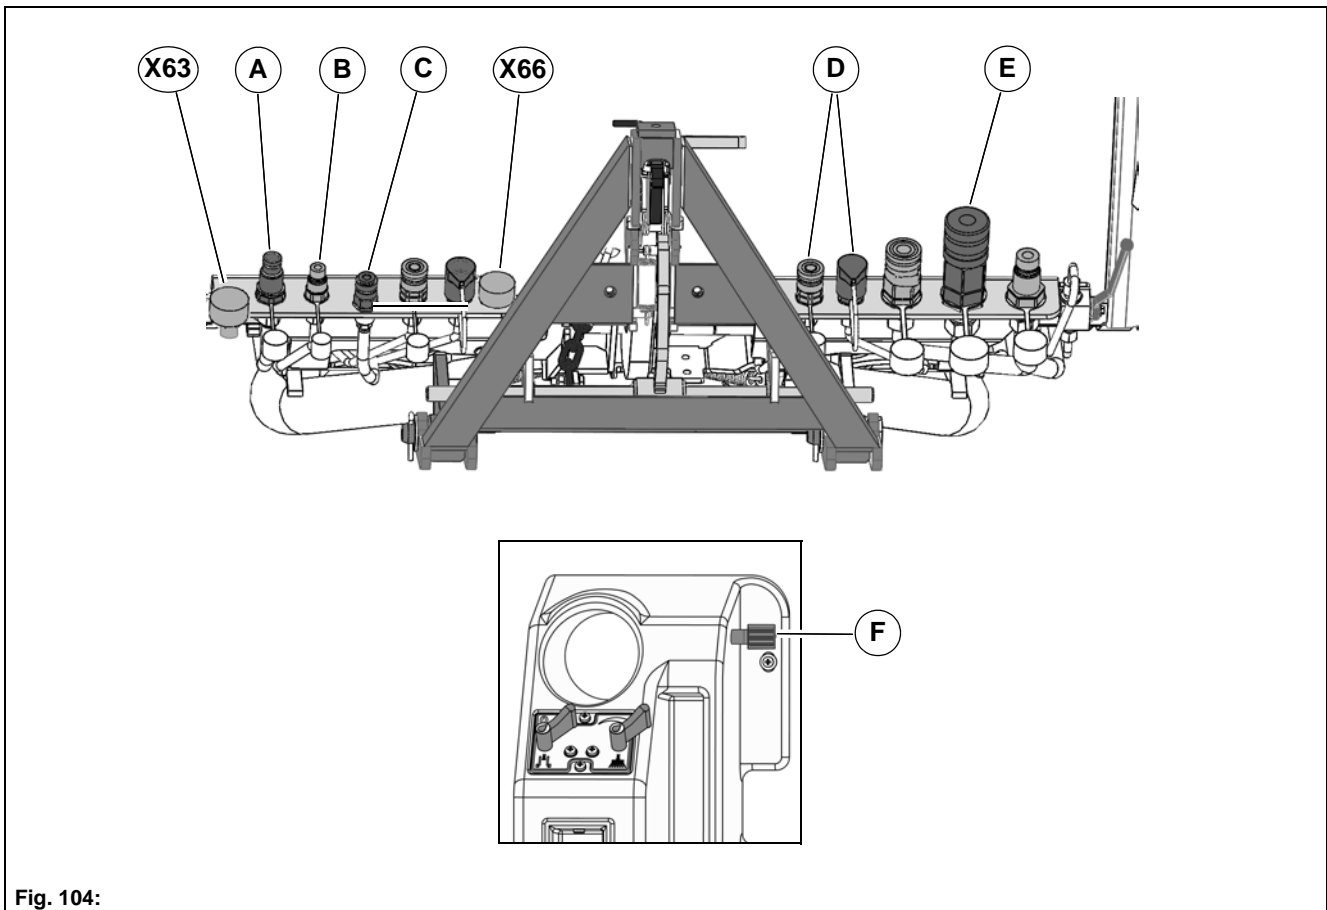

Fig. 104:
For the 3-brush system, the front tool carrier must be fixed in the upper end position. After mounting, move the front tool carrier to the upper end position and close the lowering valve **Fig. 104-F**.
- Supply control unit 3-brush system = **Fig. 104-A**
- LS for control unit 3-brush system = **Fig. 104-B**
- Water connection for spray nozzles = **Fig. 104-C**
- Actuator – supply/return = **Fig. 104-D**
- Return control unit 3-brush system = **Fig. 104-E**
- 9-pin plug = **Fig. 104-X66**
- 19-pin coding plug = **Fig. 104-X63**